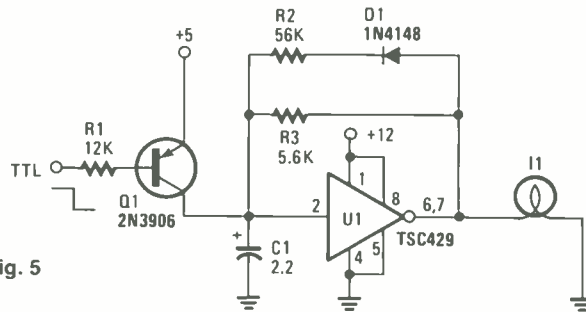

Fig. 5
M.V., of Salt Lake City, UT, wants a controlled light flasher. No problem at all, M.V. Just take a look at Fig. 5. You should have no problem with that circuit; but be aware that the circuit requires two separate voltage sources to make it work. It's a simple, straightforward circuit that needs no explanation.